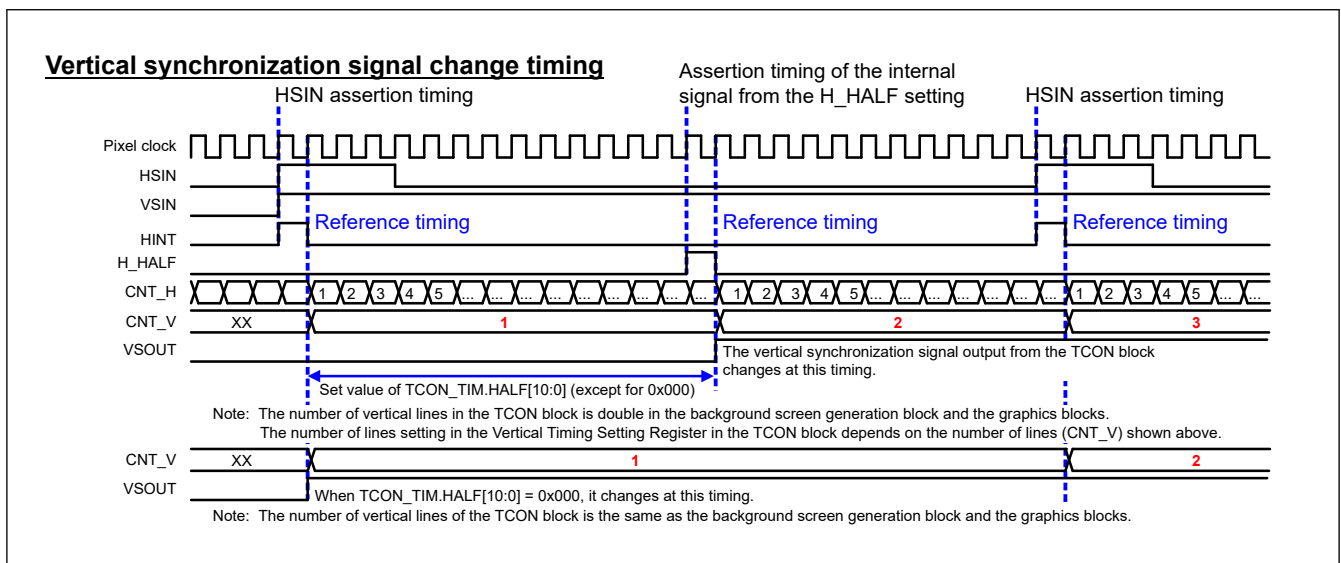

Figure 64.16 Timing in the TCON for vertical synchronization signal change
The HALF[10:0] bits specify the vertical synchronization signal change timing when the signal is generated in the TCON. Set the change timing as a delay from the assertion of the internal horizontal synchronization signal (HS) in terms of pixels. Figure 64.16 shows the vertical synchronization signal change timing in the TCON.